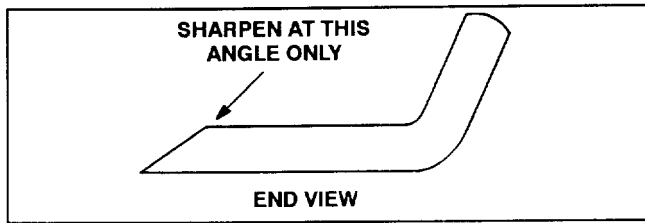

Figure 75
3. Inspect cutting edges of all blades. Sharpen the cutting edges if they are dull or nicked. Sharpen only the top of the cutting edge and maintain the original cutting angle to make sure of sharpness (Fig. 75). The blade will remain balanced if same amount of metal is removed from both cutting edges.